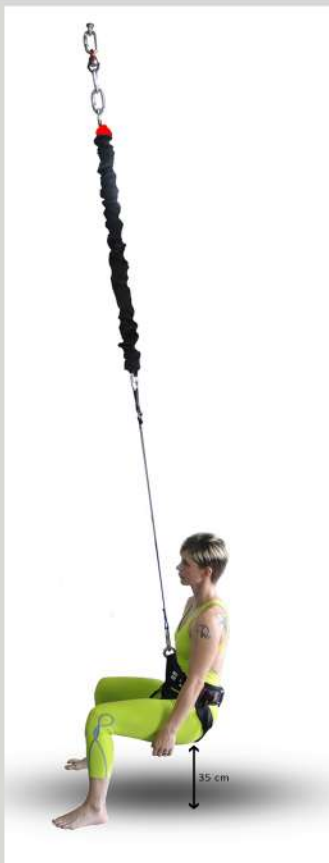

Figure 1. Seated Front anchor point
- B)** Always adjust the height of the system, taking into account that when sitting a space of at least 35 cm to the ground (figure 1).